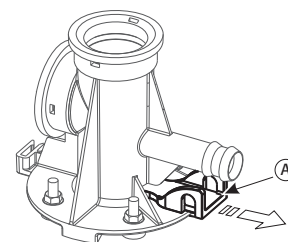

Fig. 3.a
- activate the mechanical device under the cylinder (see part. A Fig. 3.a).